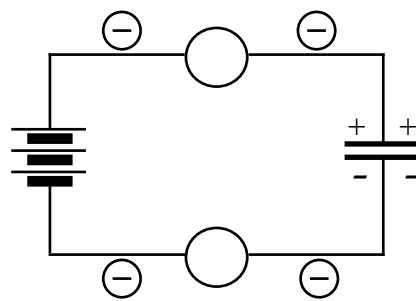

Figure 7.9b
1. On Figure 7.9b, draw arrows to show the direction hypothetical mobile particles carrying negative (-) charge must move in order to charge the capacitor (if they exist).